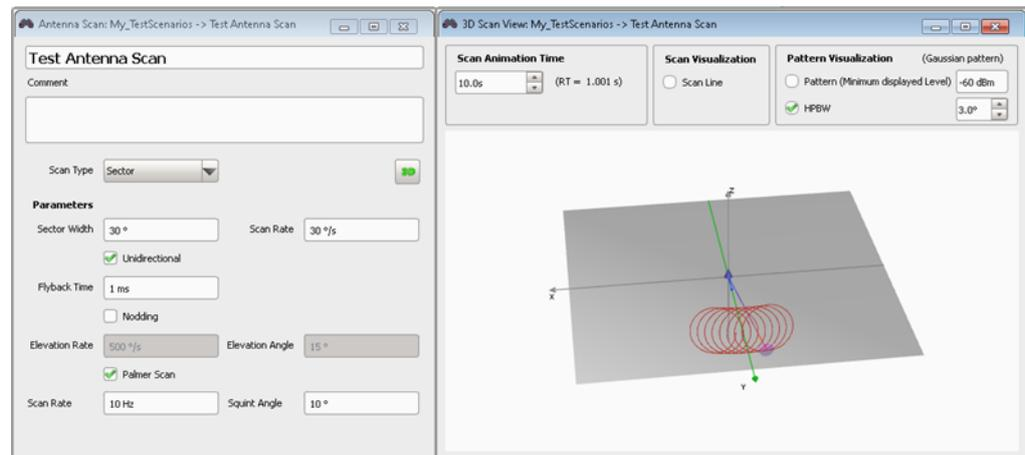

Figure 9-8: Sector scan with enabled Palmer scan
- "Palmer Scan" If enabled, superimposes a conical scan on the circular scan, see Figure 9-8.
If enabled, superimposes a conical scan on the circular scan, see Figure 9-8.
"Palmer Scan" If enabled, superimposes a conical scan on the circular scan, see Figure 9-8.